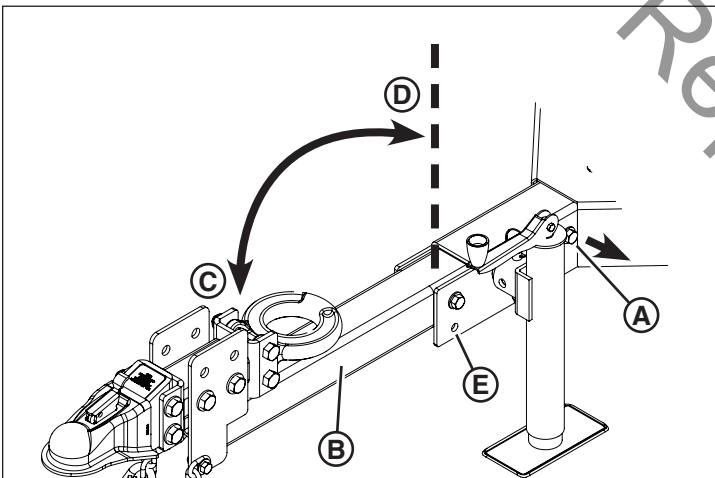

Figure 4
2. Remove the rear hardware (**A**, Figure 4) securing the trailer tongue (**B**) in the towing position (**C**).
3. Pivot the trailer tongue up to the park position (**D**, Figure 4). Secure with the removed hardware, inserting into the park position locking hole (**E**). Be sure to tighten the hardware.
2. Remove the hardware securing the trailer tongue in the park position (E, Figure 4).
3. Pivot the trailer tongue down to the towing position (C, Figure 4). Secure with the removed hardware (A). Be sure to securely tighten the hardware.